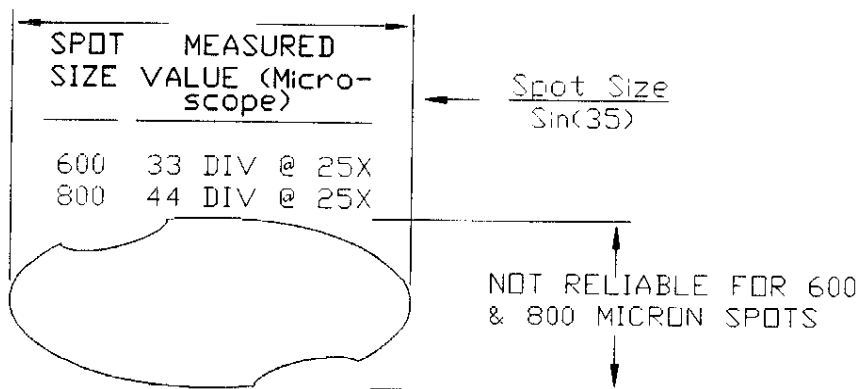

FIGURE 3
- Z. The 1000 micron spot may be set to 800 microns. The spot may appear a little odd. See Figure 3.